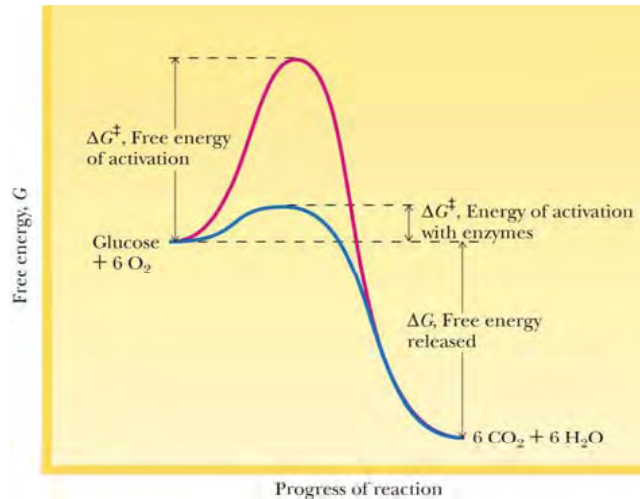

Figure 13.1 Reaction profile showing the large free energy of activation for glucose oxidation. Enzymes lower  $\Delta G^\ddagger$ , thereby accelerating rate.
- Enzymes catalyze thermodynamically favorable reactions, causing them to proceed at extraordinarily rapid rates (see Figure 13.1)